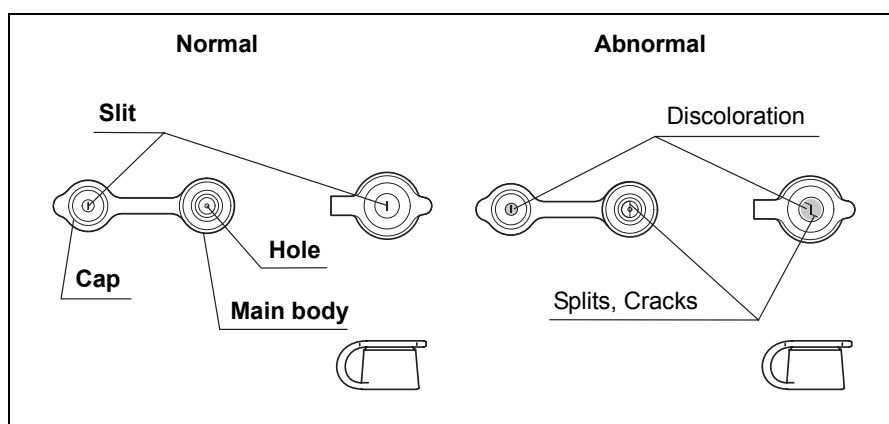

Figure 3.9
1. Confirm that the slit and hole on the biopsy valves have no splits, cracks, deformation, discoloration or other damage (see Figure 3.9).